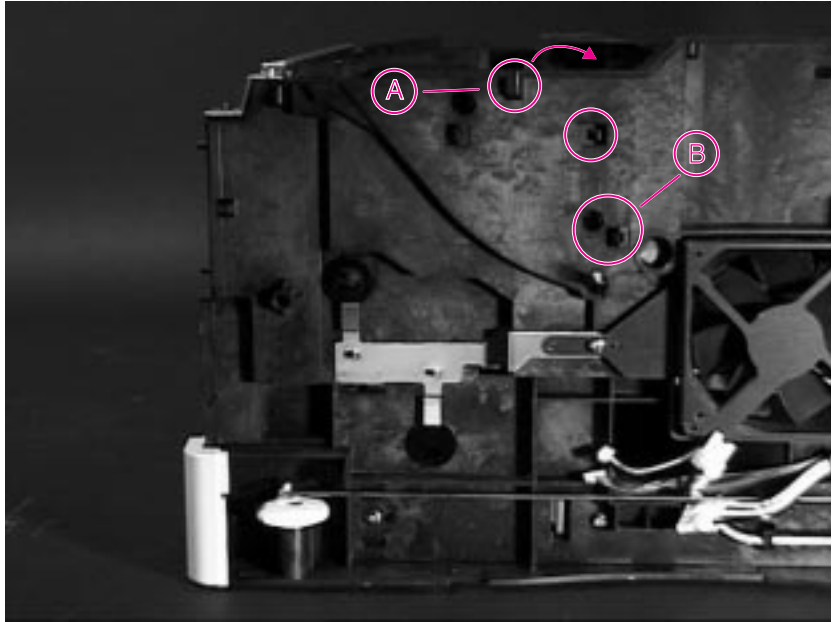

Figure 6-60 Toner Cartridge Guide
- 2 Release the “leading” tab (A) first. See Figure 6-60.